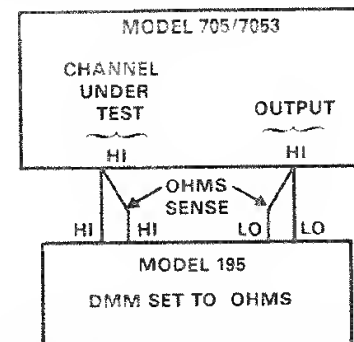

Figure 3. Model 7053 Open and Close Test Circuit
- This test verifies that the Model 7053 opens and closes the channels on the card on command from the scanner mainframe. Set up the test circuit shown in Figure 3.